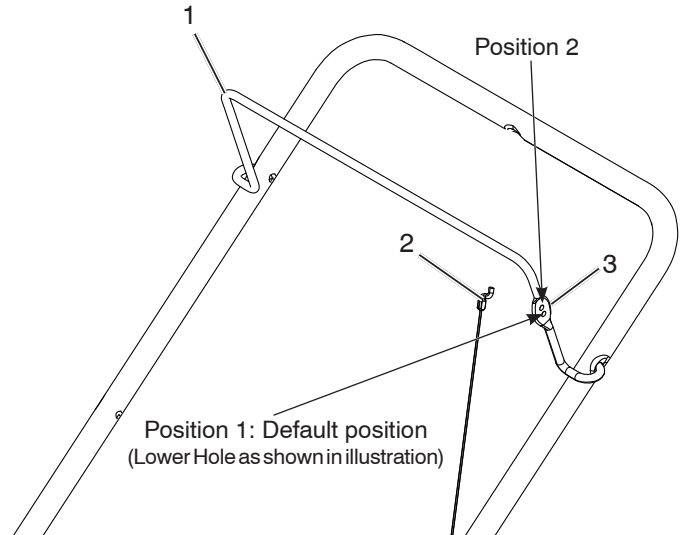

Figure 21
1. With the control bar disengaged, unhook and move the control cable to the highest position. (Figure 21).